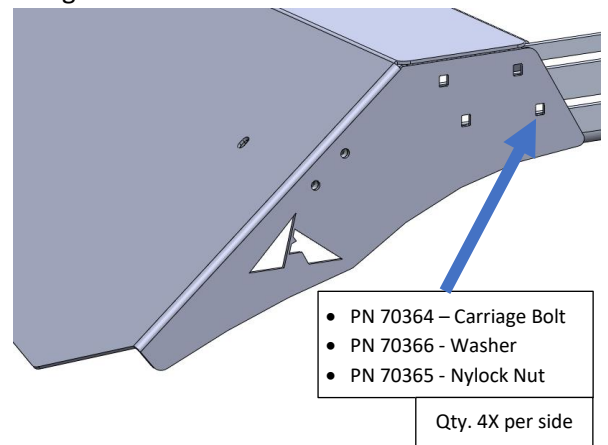

Figure 12: Air Dam Subassembly Installation
- Install air dam subassembly onto roof rack using appropriate carriage bolts and hardware shown in Figure 12.